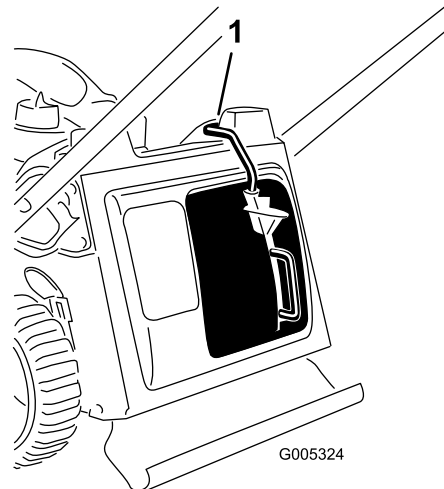

Figure 28
**Important:** The mower has a safety switch that prevents you from starting the mower unless you first install the mulch plug securely on the mower (Figure 28).